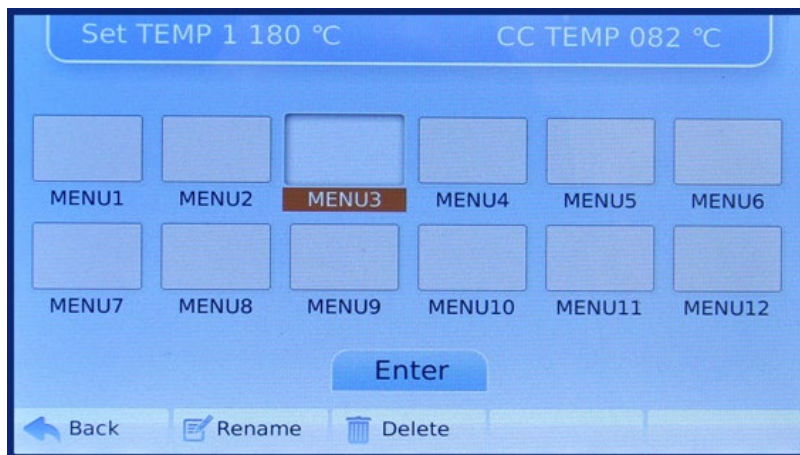
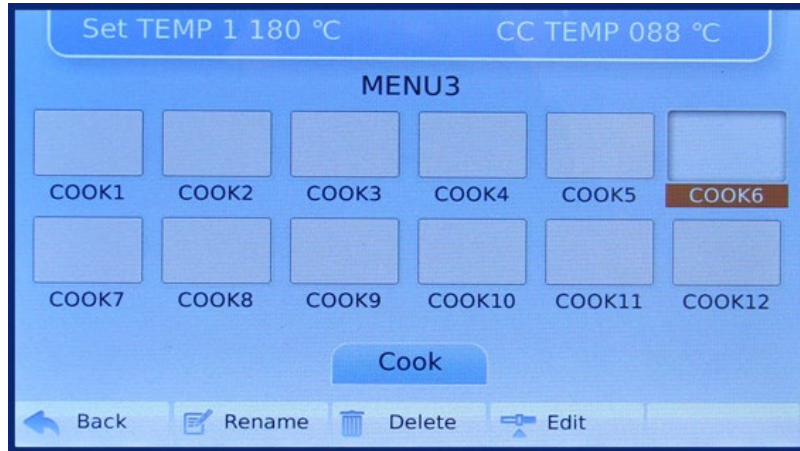
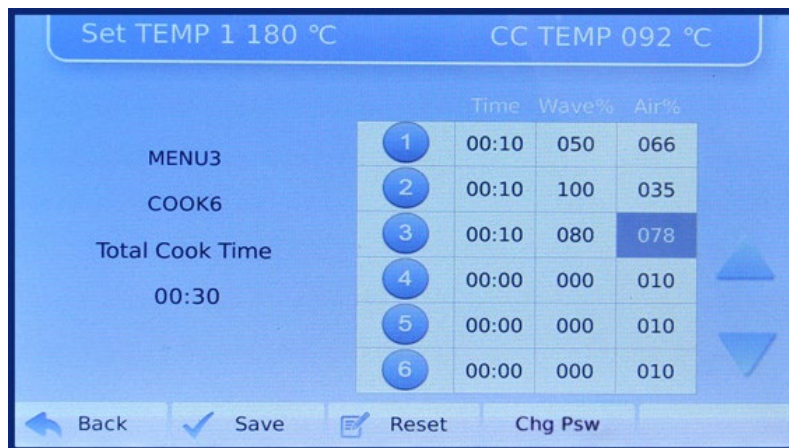
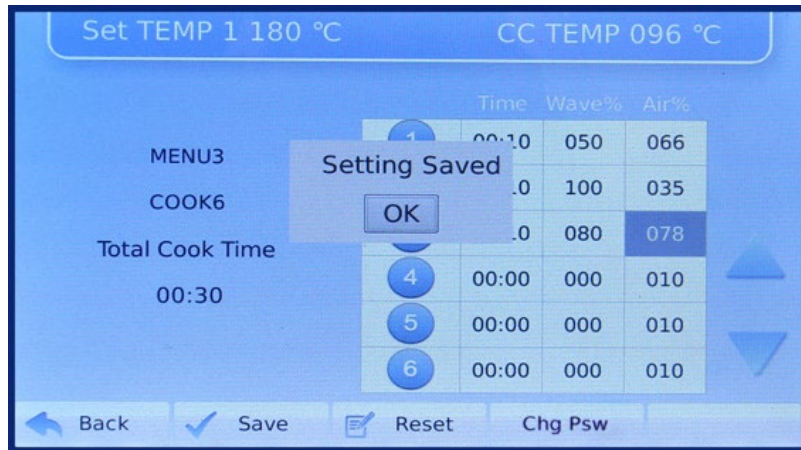

Figure 2
Figure 3
Figure 4
Figure 5
4.2.1 Access menu groups/Preheat: In Figure 1, for example, select “Set TEMP 1”, touch “Cook”, menu groups screen shown in Fig 2, a total of 12 menu groups.
4.2.2 Access recipes: In Figure 2, for example, select “menu3”, touch “Enter”, recipes screen shown in Fig 3, there are 12 recipes under each menu group. Each “Set temp” is capable of storing up to 144 recipes. Total 432 recipes for one oven.
4.2.3 Edit recipe (preprogramming): In Fig3, select a recipe, touch “Edit”, enter the password to enter the **multi-stage programming interface** of the selected recipe (up to 6 stages for each recipe), as Fig4 shows. (default password:123456, users can change it.)
4.2.4 Save settings: In Fig 4, touch “Save” to save the settings, as Figure 5 shows.